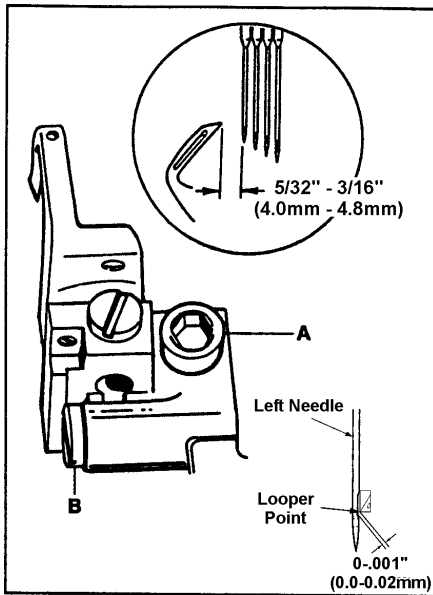

FIG. 15
Turn the handwheel in operating direction until the looper has traveled fully to the left. Loosen screw (A, Fig. 15) and move the looper holder to the right or left until the distance from the point of the looper to the center of the first (left) needle is $5/32'' - 3/16''$ (4.0mm - 4.8mm). Set looper point .000-.001" (0.0-0.02mm) to first needle. Turn screw (B) until the proper dimension is achieved. Tighten screw (A). Looper point should not deflect or pinch needles.